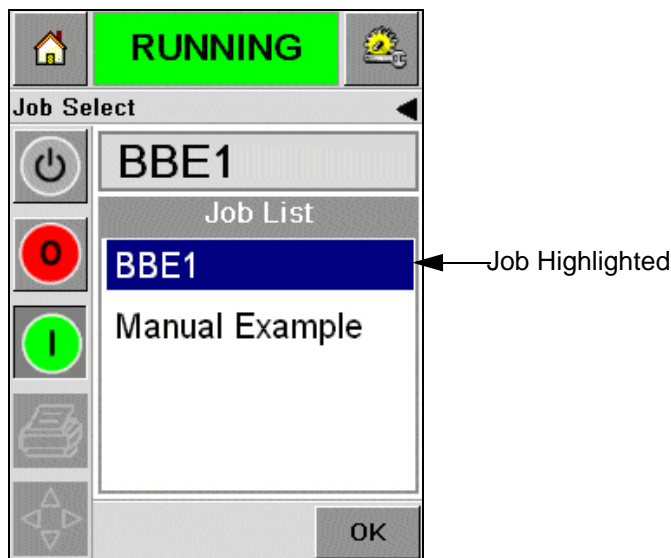

Figure 5-3: Job Selection
- 2 If the job list is short, then Touch the job name and the name of the job is highlighted (Figure 5-3).
characters in the job name until you select the required job (Figure 5-3 on page 5-3).